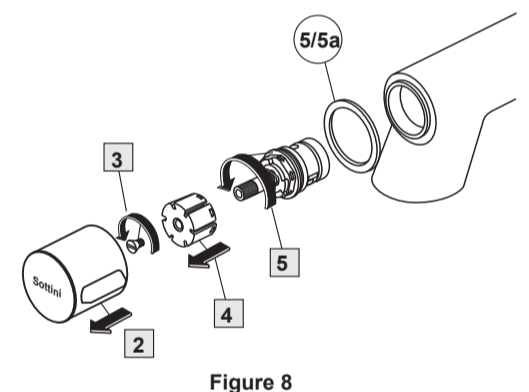

Figure 8
- When positioned correctly, tighten the fitting using the Allen key provided. (Pass the Allen key to the user for future use). (Fig 8)
- Once tightened, position the vertical pop-up rod (13) through the same vertical hole and connect this to the horizontal rod using the connector provided.